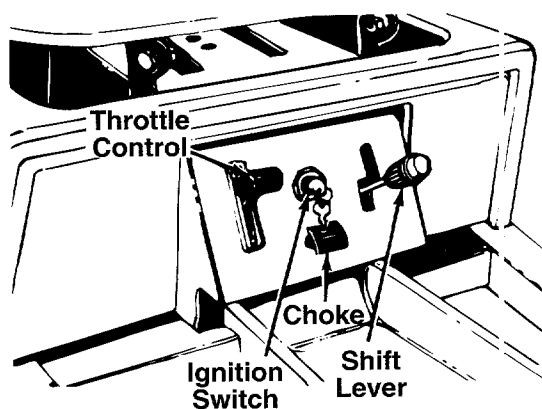

FIGURE 11.
The throttle control is used to regulate the engine speed. The engine should be operated at full throttle when operating the cutting deck. See figure 11.
The choke control is located on the console and is operated manually. Details for the choke operation are covered in the separate engine manual packed with your unit. See figure 11.
The key must be turned to the START position to start the engine. After the engine is running, let the key return to the ON position. Turn the key to the OFF position to stop the engine. Remove the key when the rider is not in use. See figure 11.
The shift lever is located on the left hand side of the console and has three positions, FORWARD, NEUTRAL and REVERSE. See figure 11. The clutch-brake pedal must be depressed and the riding mower must not be moving when shifting gears. Do not force the shift lever. If the shift lever will not shift, release the clutch-brake pedal slightly to line up the shifting collar in the transmission. Then try to shift gears.
6. Turn the ignition key to the START position. As soon as the engine starts, let the key return to the ON position. See figure 11.